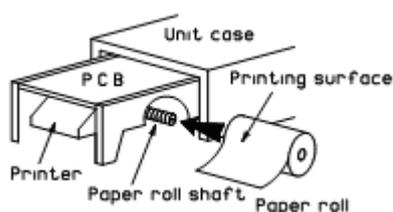

Figure 1
2. Set the paper roll on the shaft (See Figure 1 ). Since the outer and inner surfaces of the paper are different, set the roll so that the printing surface is the outer.